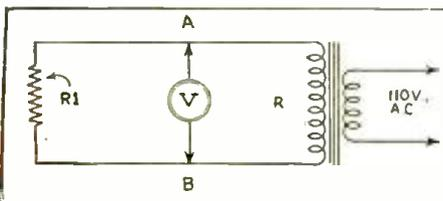

Fig. 1
As an example of how this equation can be used in practice, take the case of the transformer shown in Fig. 1. The value, e, measured at points AB without load, is found to be 320 V. The value, R, as measured with an ohmmeter, is 400 ohms, which is its D.C. resistance; however, it was found that at 60 cycles, the difference between this value and the A.C. impedance is negligible and hence the error introduced was of no consequence. Resistor R1 is a voltage divider of 6,000 ohms resistance. What we want to know is: what will be the transformer voltage with this 6,000 ohm load? Substituting the above values in equation (1) gives —300 V.